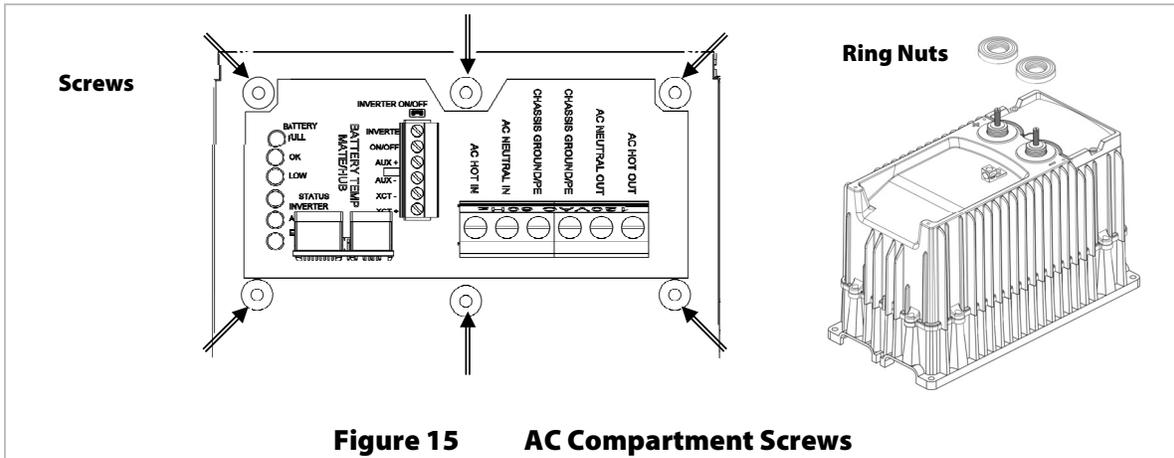

Figure 15 AC Compartment Screws
- Insert, but do not tighten the 6 screws that connect the top cover to the AC Assembly. See Figure 15.
- Reattach the red and black battery terminal nuts and tighten. Next tighten the 6 AC Assembly screws to a torque value of 15 in-lb. See Figure 15.